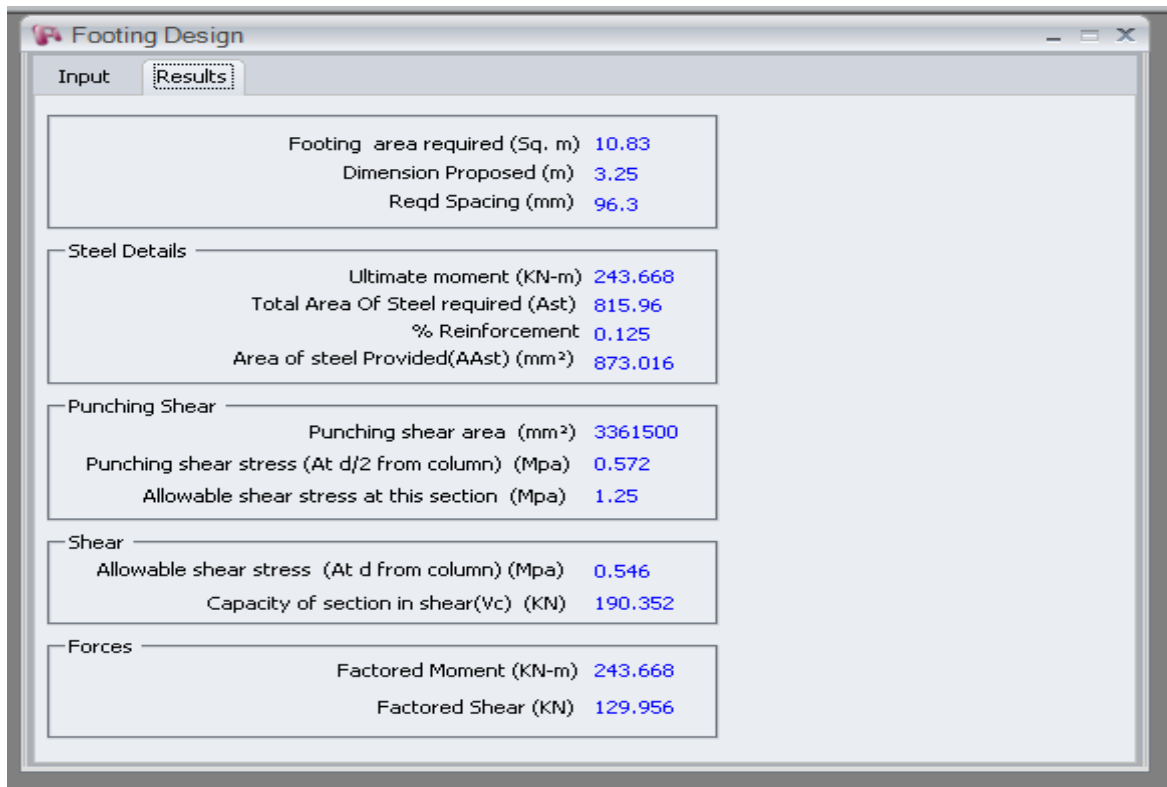

Fig.4.2.6
2. Click on the Results from footing design grid (fig 4.2.6)